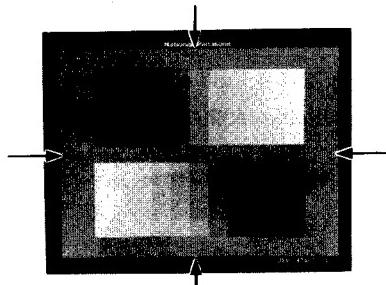

Fig. 1-1
- Logarithmic Gray Scale Chart (Part Number: YWV2310RB99) as shown in Fig. 1-1.